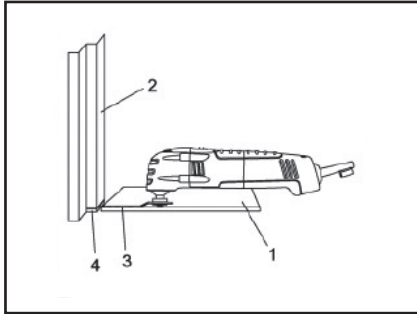

Fig. 7
2. Place a scrap piece of floor tile (1) on the floor about 1/2" (25mm) from the door jamb (2) (Fig. 7).